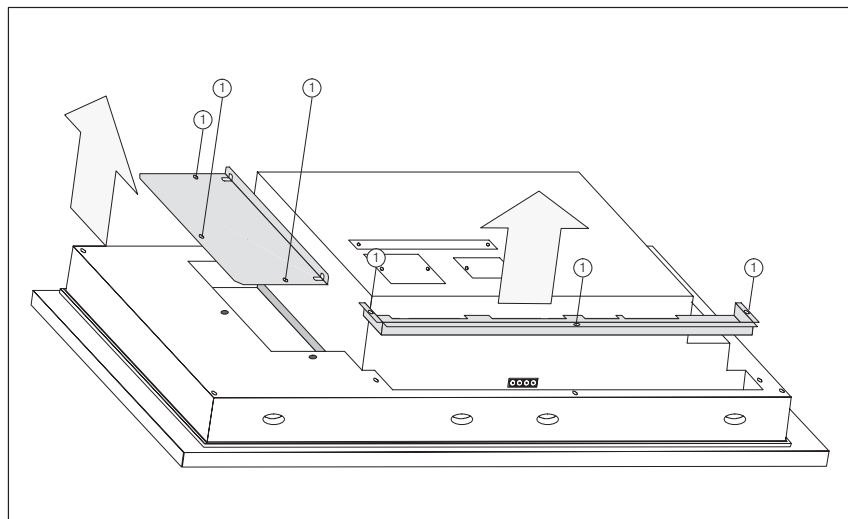

Figure 17-3 Undo screws
2. Remove the screws indicated in Figure 17-3 as ①.